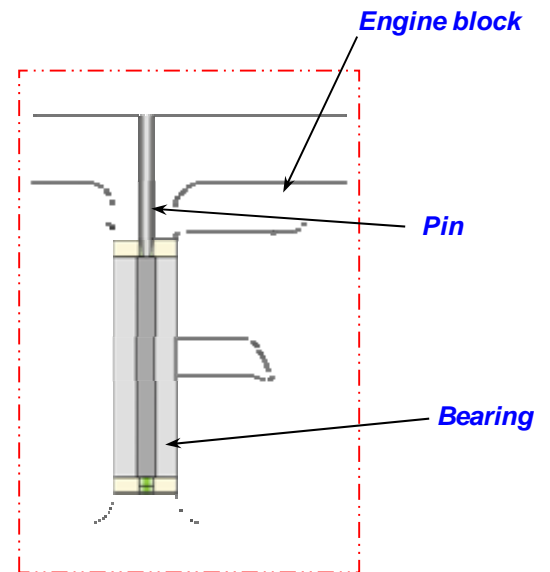

Fig.3 Pin for fixing camshaft bearing
- Insert bearing shell, and accord the oil hole of bearing shell and frame by means of a pin with diameter 9.5mm as shown in Fig 3.